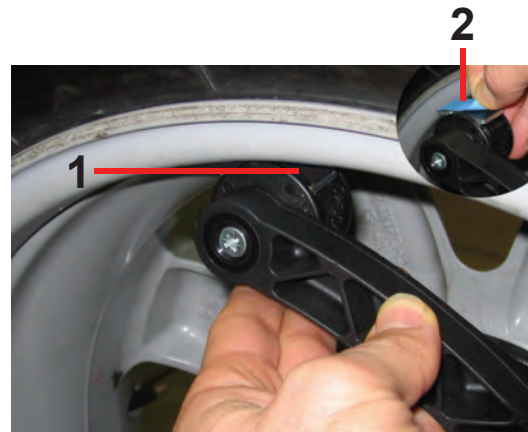

Figure 28b
NOTE: Clean the area where the weight will be placed before attaching the adhesive weights. In compliance with the imbalance detected, approach at the gauge head the suitable adhesive weight.(1, **Figure 28b**). Remove the protective tape (2) from the stick-on weight and apply it to the correct point on the rim.